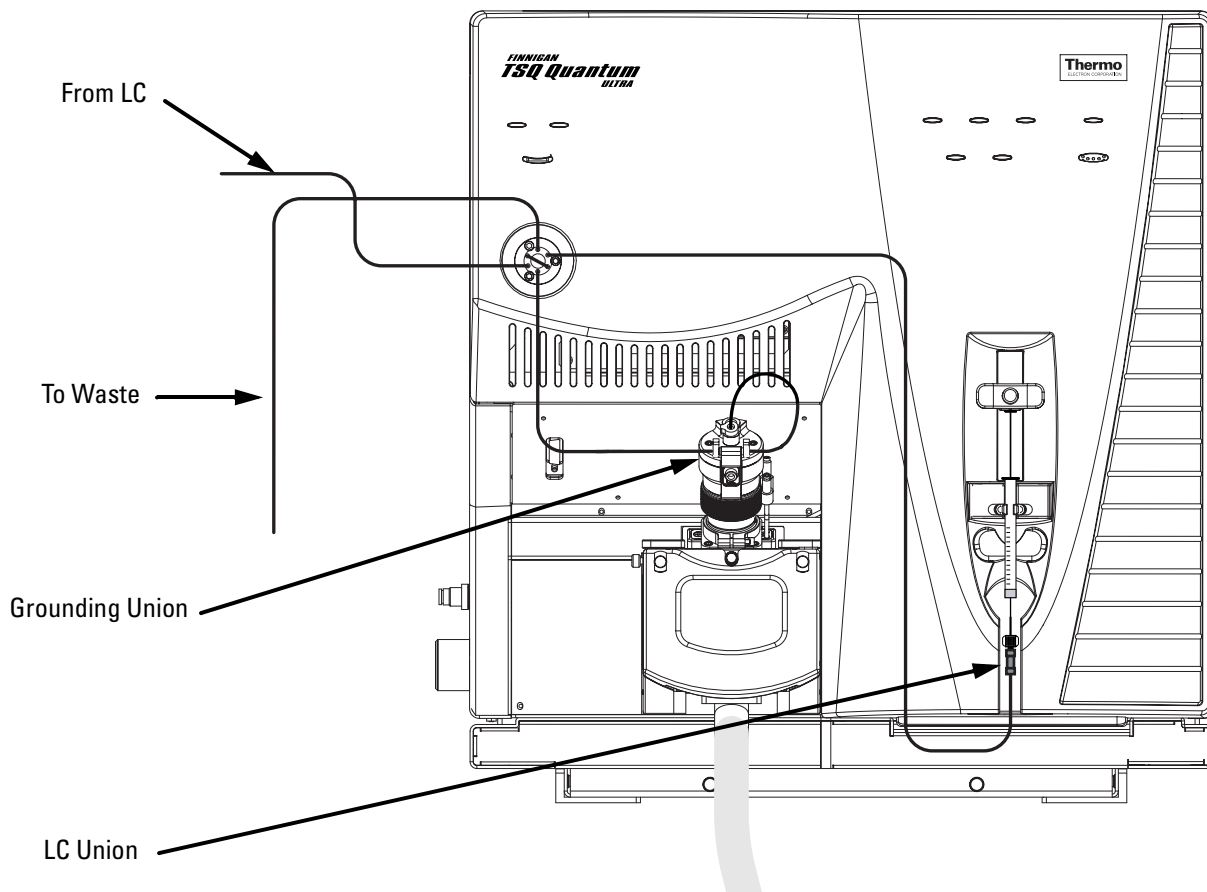

Figure 4-1. H-ESI/MS plumbing connections for sample introduction by auto loop injection into the solvent flow from an LC
The following procedure describes how to introduce your compound by auto loop injection. The plumbing connections for H-ESI/MS sample introduction from the syringe pump into the solvent flow from an LC are shown in Figure 4-1.
- c. Connect the other end of the tubing with a fingertight fitting and a ferrule to the grounding union on the ion source. See Figure 4-1.